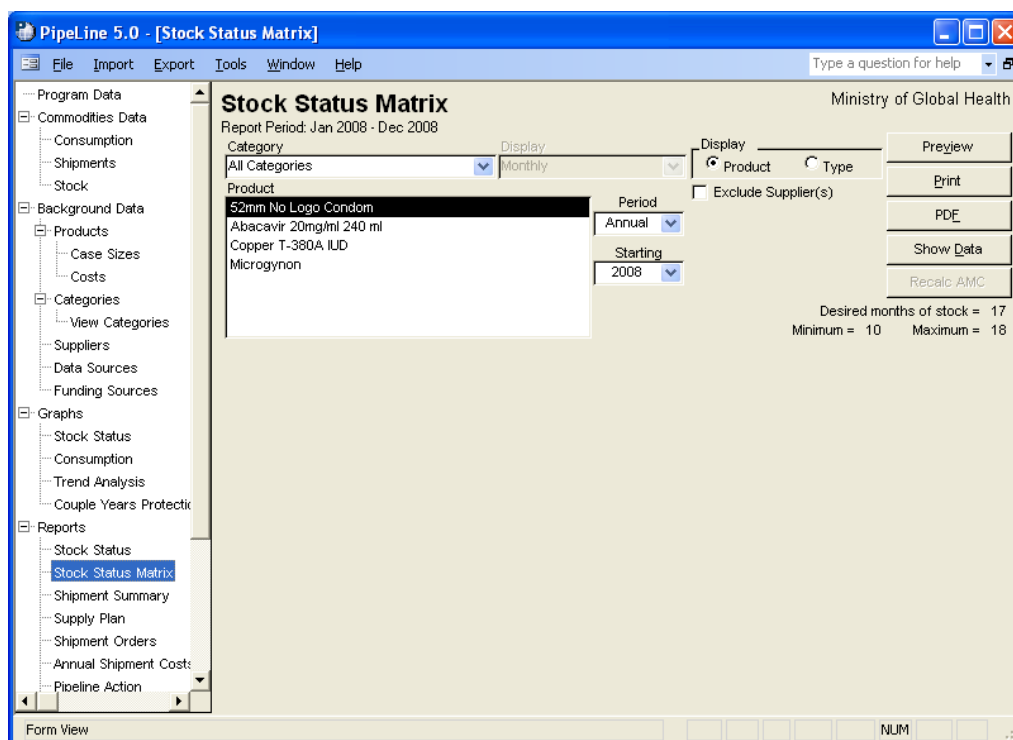

Figure 24—Stock Status Matrix screen
1. Click on the Stock Status Matrix Tree View option (under Reports) to display the Stock Status Matrix screen (see Figure 24).